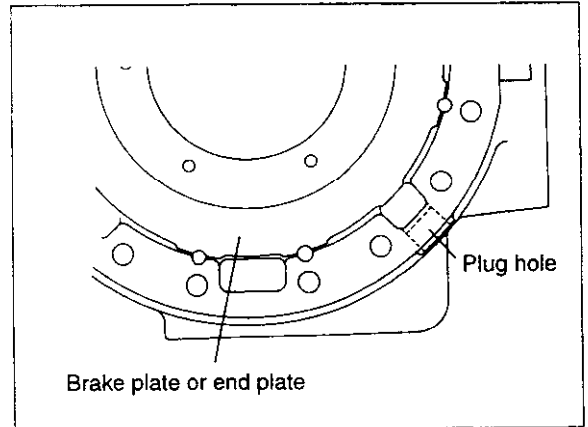

Fig. 2-376
- Ensure that the outer diameter convex area of each brake plate and end plate is in alignment with the plug hole for measuring disc thickness. (See Fig. 2-376).